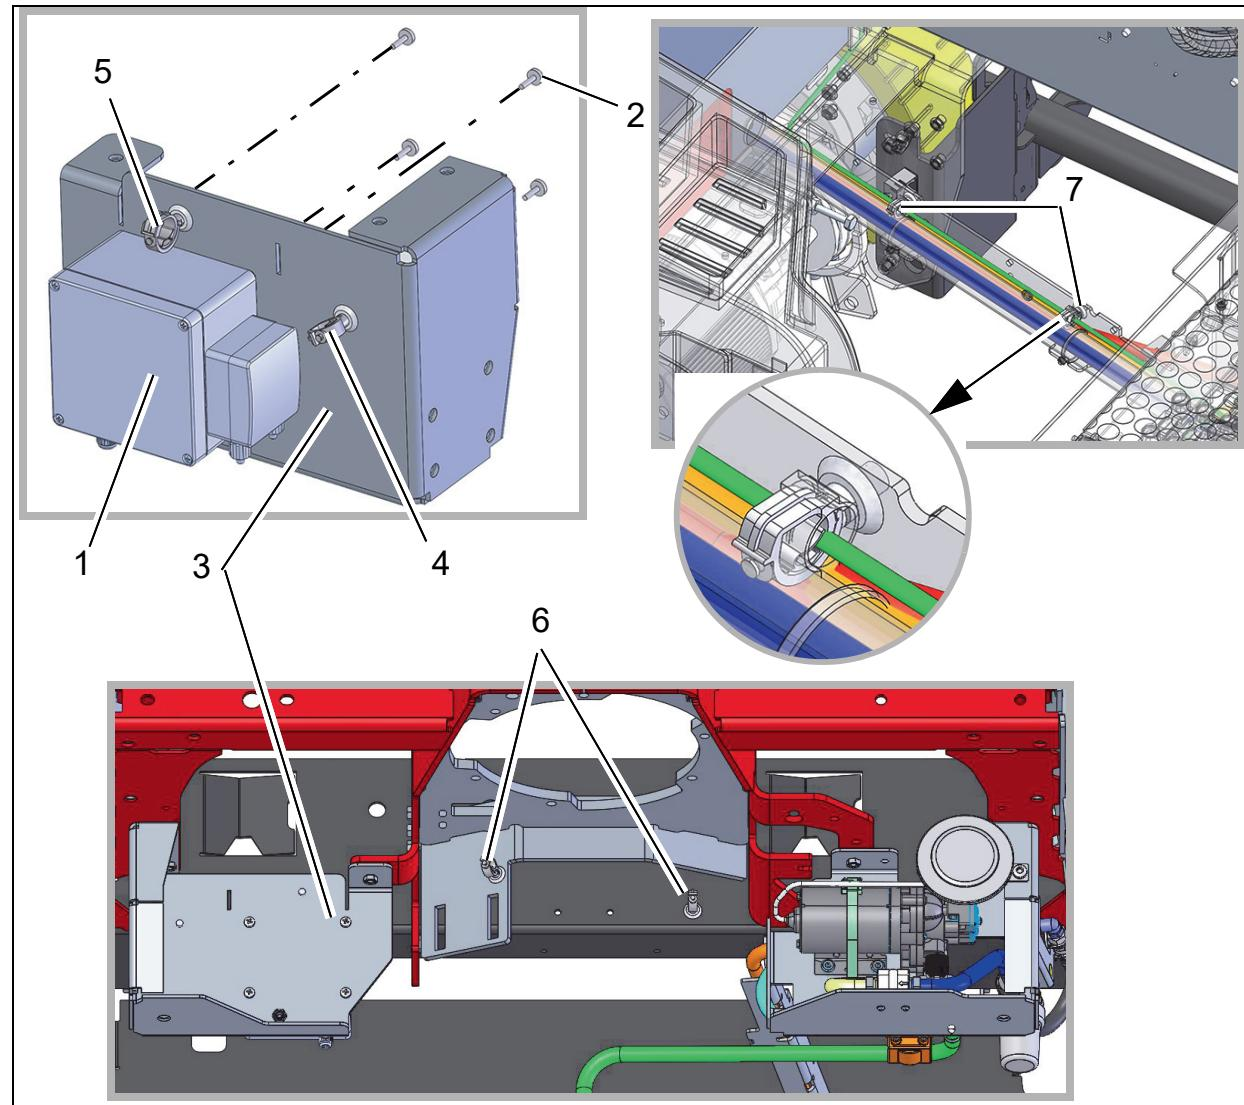

Fig. 3
Install the dosing pump (Fig. 3/1) on the right-hand water plate (Fig. 3/3) using the four M6x16 flanged button head bolts (Fig. 3/2).
1. Install the cable bundle holder Ø 13 with stand (Fig. 3/4) and the cable bundle holder Ø 20 with stand (Fig. 3/5) on the water plate.
2. Install two cable bundle holders Ø 13 with stands at the front of the chassis (Fig. 3/6).
3. Install two cable bundle holders Ø 13 with stands on the cable bridge (Fig. 3/7).